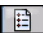

Figure 8-5. Grid to Ground from Start Base
The **Grid to Ground Params** screen (Figure 8-5) displays the Grid to Ground (GG) system (in the defined coordinate system) for the